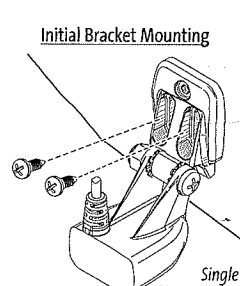

Figure 14
2. Align the transducer assembly with the drilled holes in the transom (Figure 14).
4. Make sure that the transducer location has not changed, then hand tighten the two mounting screws (Figure 14).
- Align the transducer assembly with the drilled holes in the transom (Figure 14).
- Make sure that the transducer location has not changed, then hand tighten the two mounting screws (Figure 14).